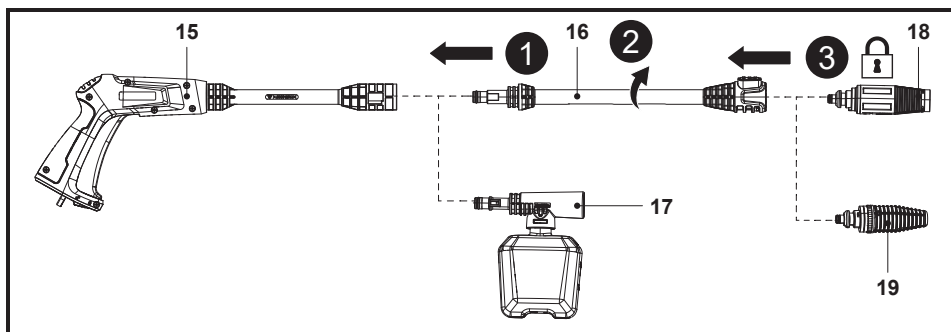

Fig. 2
1. Align and insert the extension lance (16) or detergent bottle nozzle (17) into the socket of the spray gun (15) (Fig. 2, step 1).
2. Push and turn the extension lance (16) or detergent bottle nozzle (17) clockwise onto the spray gun (15) until hand tight to lock it in place (Fig. 2, step 2).
3. Align the two nozzle taps with the slots of the extension lance (16), then insert the turbo nozzle (18) or variable nozzle (19) until the end (Fig. 2, step 3).